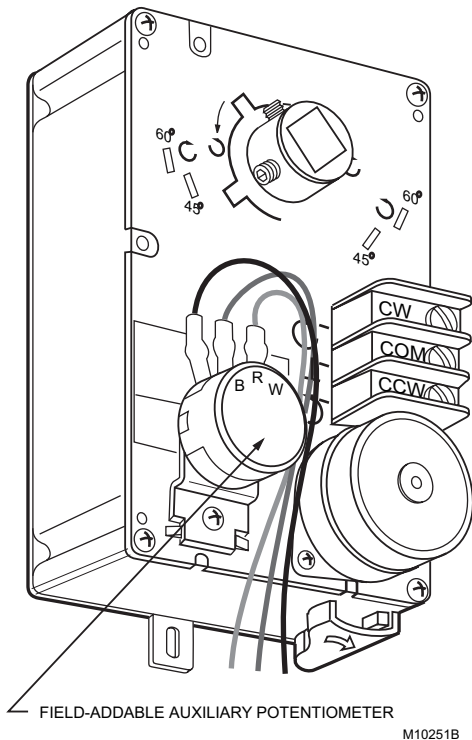

Fig. 15. ML6161A,C, ML6174A,C with field-addable potentiometer.
The 200976A,C Auxiliary Potentiometers mount on the face of the ML6161A,C or ML6174A,C (as shown in Fig. 15). The potentiometer shaft has a slipping collar. If one of the two limits of the potentiometer is exceeded, the collar continues to rotate, causing no damage to the potentiometer itself. To mount the potentiometer on the actuator:
2. Check the resistance values of the potentiometer with an ohmmeter at intervals in the stroke while referring to the table in Fig. 15 and resistance information provided in the Specifications section.